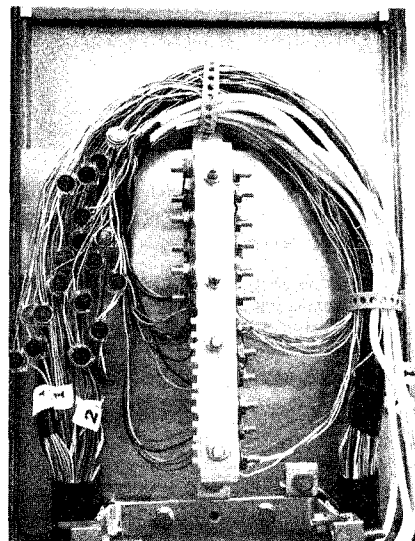

Fig. 17
(9) Fig. 17 illustrates the second terminal block in place with all binding posts occupied.